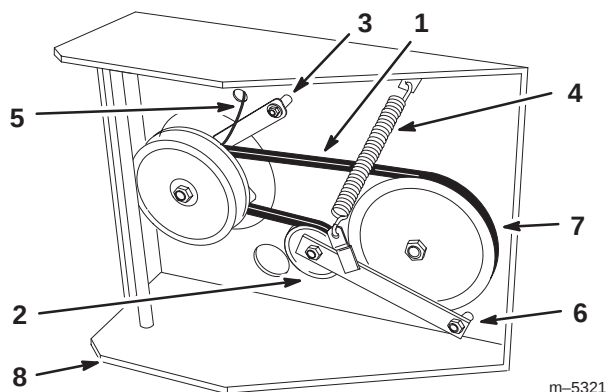

Figure 63
6. Disconnect clutch retainer from the engine deck (Fig. 63).
7. Unhook tension spring from side of frame (Fig. 63).
10. Torque pivot bolt to 35-40 ft-lb (47-54 N•m). Install tension spring between idler arm and frame bracket (Fig. 63).
11. Install clutch retainer to the engine deck (Fig. 63).